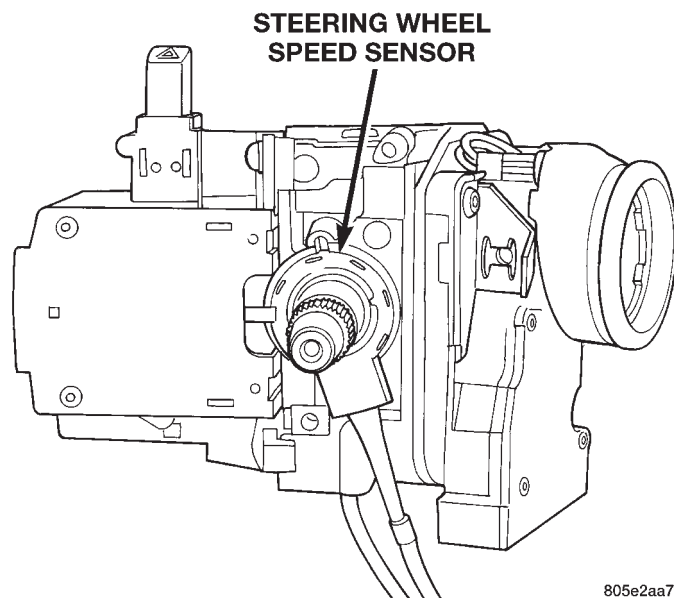

Fig. 4 Steering Wheel Speed Sensor
- (1) Disconnect the negative (ground) cable from the battery.
- (2) Remove airbag, refer to Group 8M Electrical for procedure.
- (3) Remove steering wheel with appropriate puller.
- (4) Remove clock spring, refer to Group 8M Electrical for procedure.
- (5) Pry sensor retaining ring tabs up and remove sensor (Fig. 4).